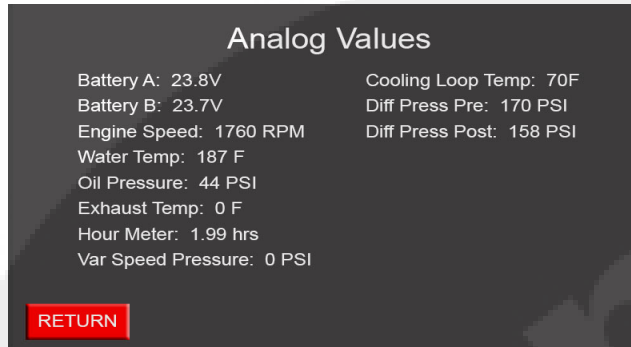

Figure 4-6 Analog Values Screen (Sample)
3. To exit the Analog Values screen (shown in Figure 4-6), press the RETURN soft key.